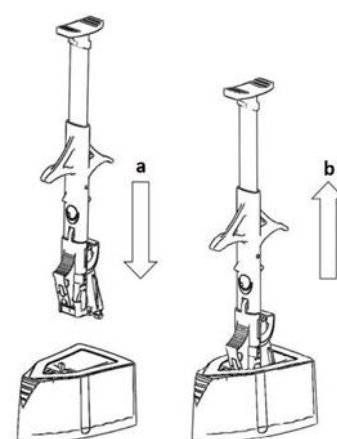

Fig. 2
4. Align the arrows on the injector's red stopper and the IOL container for correct positioning. Insert the injector with a firm downward motion as shown in Fig. 2/a until it clicks. Pull out the injector as shown in Fig. 2/b and check that the lens holder is loaded in the injector.